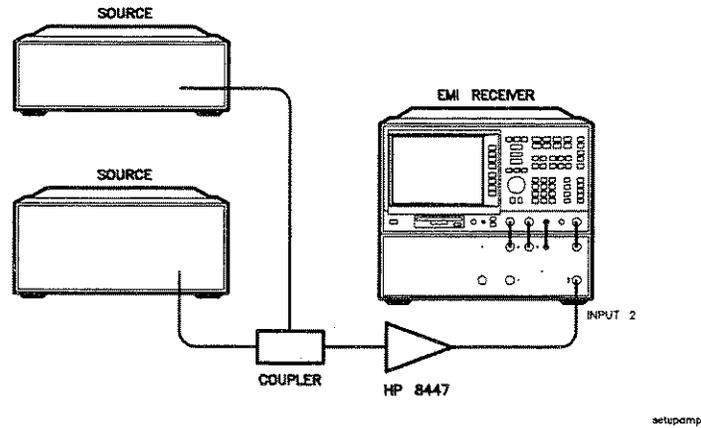

Figure 7-12. Setup for Making 3rd Order Measurements
1. Connect two sources to the receiver through an amplifier with the appropriate frequency range. Refer to Figure 7-12. Set one source to 300 MHz and 80 dB μ V (-27 dBm) and the other source to 301 MHz and 80 dB μ V (-27 dBm).